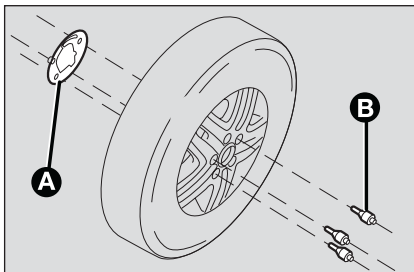

fig. 9c
- Fit the special plate **A**-fig. 9c on the alloy wheel, fastening it using the bolts **B**-fig. 9c provided using the spanner provided;